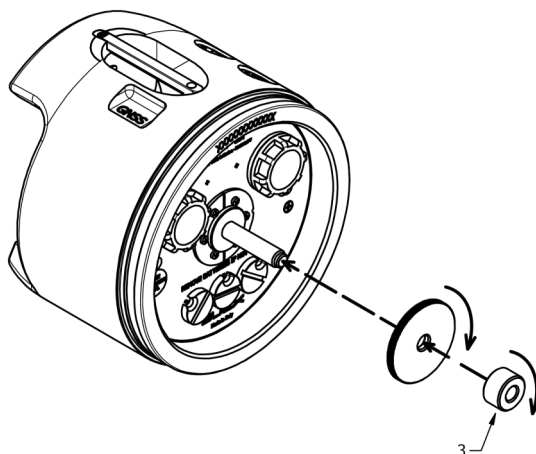

Fig 17 - Fig.15 - Ballast disk and white spacer (salt water with XK)
- Install the extra salt water ballast disk (item 11 - Fig. 3) and the WHITE spacer on the SINAPSI like in **Fig 17 - a pag. 17**